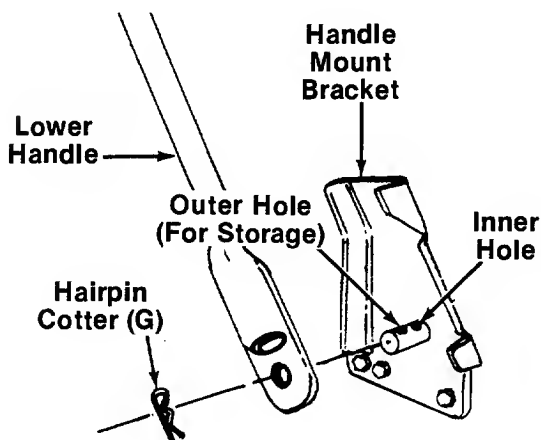

FIGURE 2.
- C (3) Hex Nuts 5/16-18 Thread
- D (2) Phillips Head Screws
- E (1) Plastic Cap
- F (2) Cable Ties
- G (2) Hairpin Cotter
- H (2) Front Hub Caps (Optional—Not Shown)
- I (1) Pin 4 1/4" Long
- J (1) Plastic Plug (Not Shown)
3. Place lower handle in position over weld pins in handle mount brackets on deck. Make certain the instruction label on the lower handle can be read from the operating position. Secure by placing two hairpin cotter (G) in inner hole on weld pins. See figure 2.